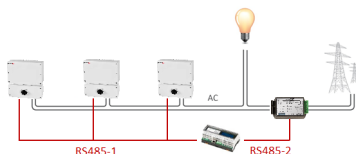

Figure 6: Multi-inverter connection with Commercial Gateway and meter
- The meter is connected to one of the RS485 ports of a Commercial Gateway. The Commercial Gateway's second RS485 port can be used to create an RS485 bus for communication between the inverters. This option is illustrated in *Figure 6*.